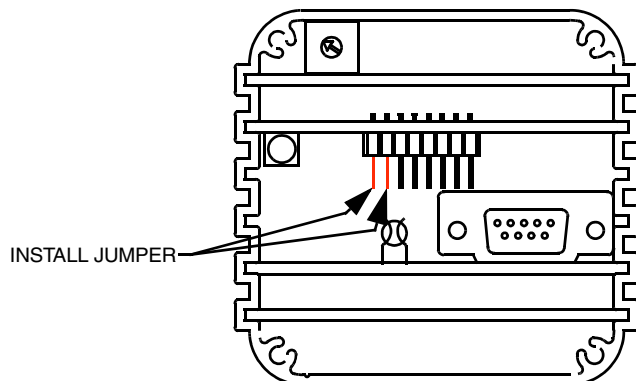

Figure 7-1: Jumper Installation Location (Cover Removed)
Make sure the jumper is installed ONLY between the pins shown in Figure 7-1. Otherwise, damage to the Micro-Ion Vacuum Gauge Module may occur.
5. Connect a jumper wire to the pins as shown in Figure 7-1.